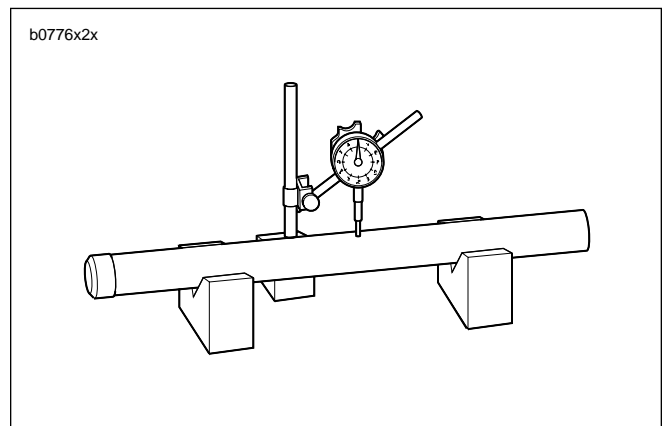

Figure 2-71. Slider Fork Runout
3. Check the slide bushing (21) and the guide bushing (22) for excessive wear or scratches. Replace if damaged or worn.
4. Replace the stopper ring (19) if distorted.
5. Measure spring (17) free length. Replace springs shorter than service wear limit of 14.31 in. (363.6 mm).
6. See Figure 2-71. Measure slider fork runout. Replace pipe if runout exceeds the service wear limit of 0.008 in. (0.2 mm).